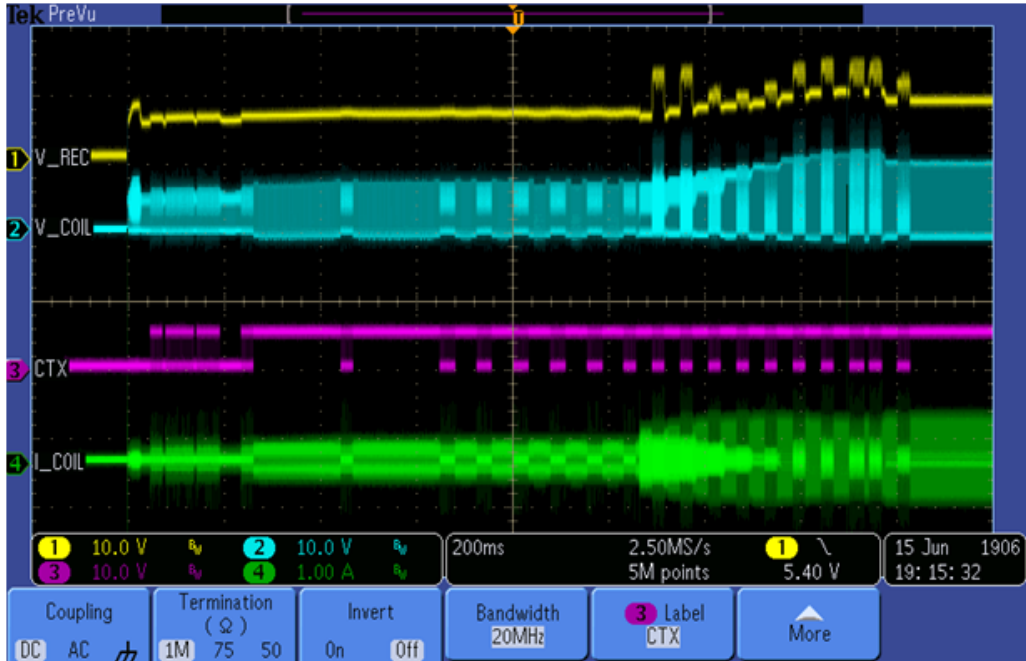

Figure 25. Ping process of the wireless power receiver
1. Figure 25 shows the input voltage and communication signal from ping phase to power transfer setup.